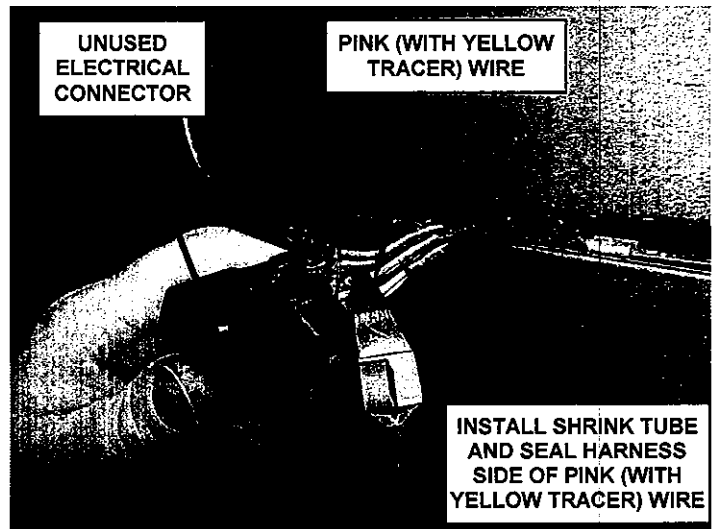

Figure 3 – Cut Pink w/Yellow Tracer Wire
- Using diagonal pliers, cut the pink (with yellow tracer) wire at the connector (Figure 3).
- Install a piece of shrink tube on the end of the wiring harness side of the pink (with yellow tracer) wire (Figure 3).